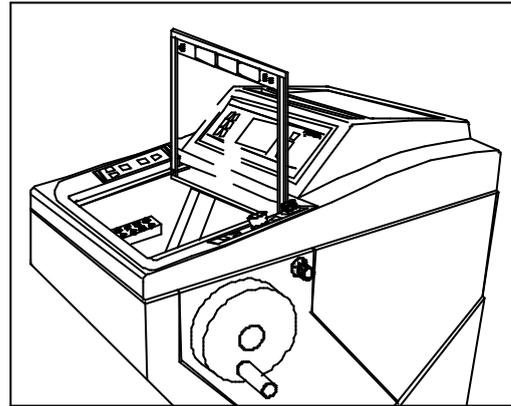

Fig. 131
- ?? Then swivel the window upwards and slightly move it backwards. Then insert it into the anchorage of the guide rails (fig. 131).